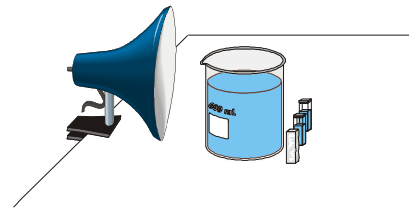

Figure 2
- 7. Obtain a 600 mL beaker filled with water and a flood lamp. Arrange the lamp and beaker as shown in Figure 2. The beaker will act as a heat shield, protecting the chloroplasts from warming by the flood lamp. Do not turn the lamp on until Step 11.
- a. Cuvette U: Add 3 drops of *unboiled* chloroplasts. Place the lid on the cuvette and gently mix; try not to introduce bubbles in the solution. Place the cuvette in front of the lamp as shown in Figure 2. Mark the cuvette’s position so that it can always be placed back in the same spot.
- b. Cuvette D: Add 3 drops of *unboiled* chloroplasts. Place the lid on the cuvette and gently mix; try not to introduce bubbles in the solution. Place the foil-covered cuvette in front of the lamp as shown in Figure 2 and mark its position. Make sure that no light can penetrate the cuvette.
- c. Cuvette B: Add 3 drops of *boiled* chloroplasts. Place the lid on the cuvette and gently mix; try not to introduce bubbles in the solution. Place the cuvette in front of the lamp as shown in Figure 2. Mark the cuvette’s position so it can always be returned to the same spot.